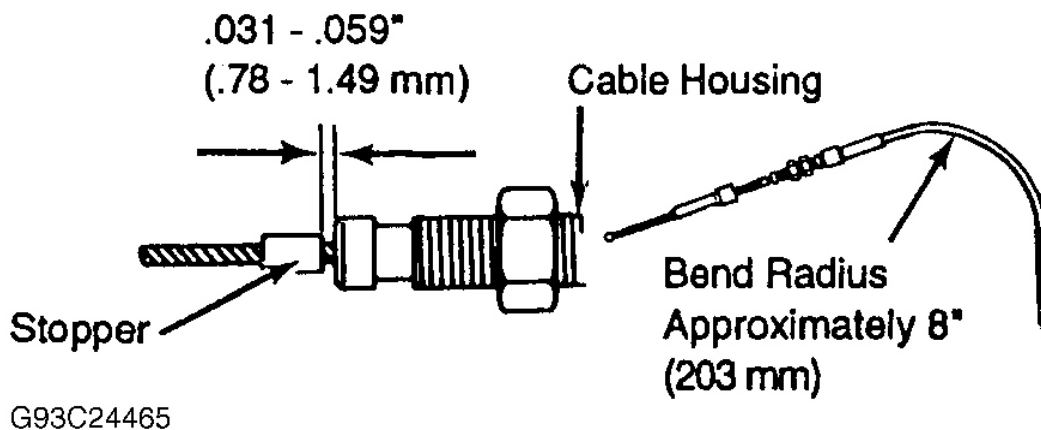

Fig. 7: Locating Throttle Cable Stopper
2. Pull inner cable lightly, until a slight resistance is felt, and hold in place. Stake stopper on inner cable, leaving a .031-.059" (.80-1.49 mm) gap between cable housing and stopper. See **Fig. 7**.